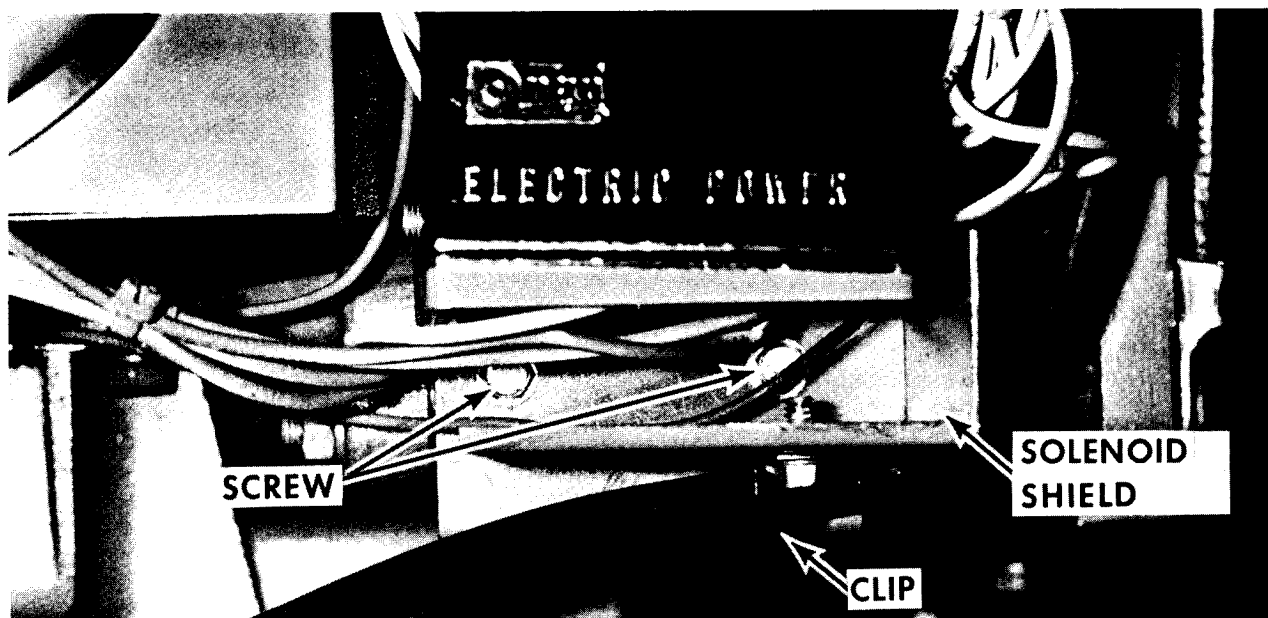
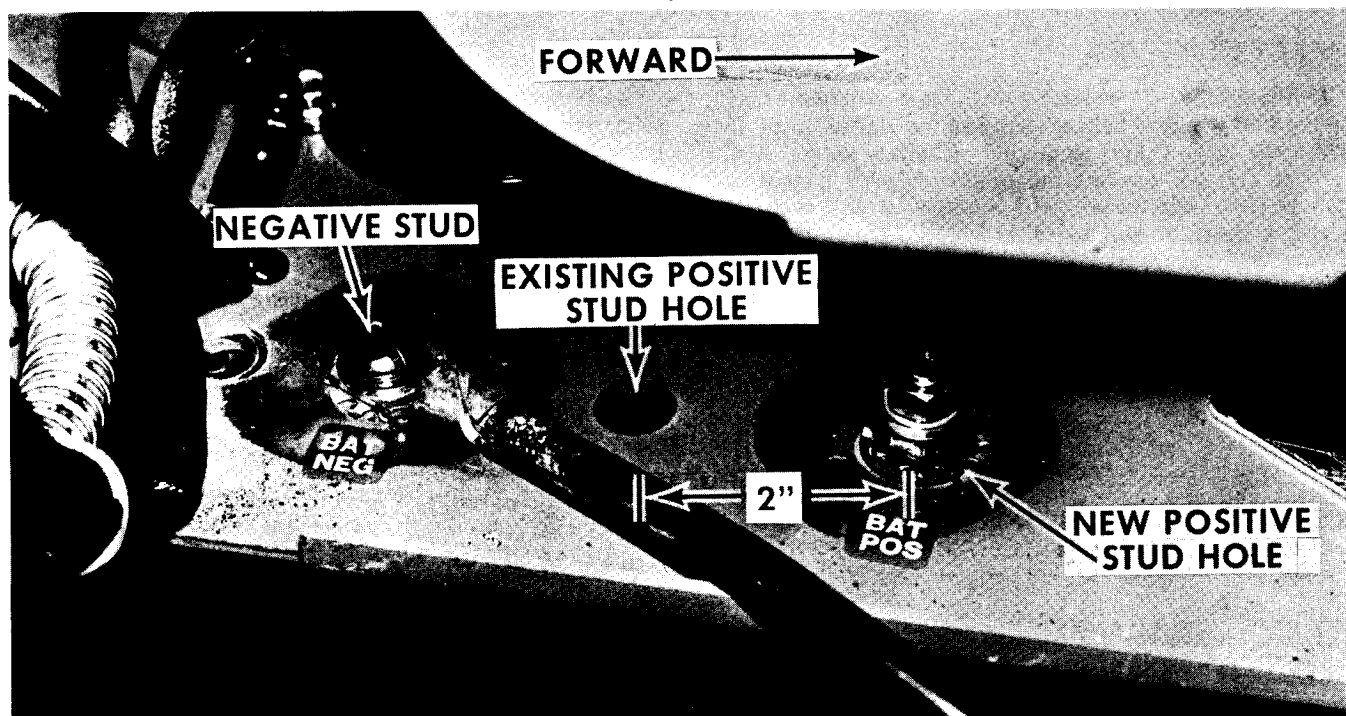

Figure 1
Figure 2
4. Remove two screws located under the control board. (Refer to Figure 1).
5. Position solenoid shield as shown in Figure 2, and install retaining screws. The control panel ground wire must be properly secured at this time. Secure starter cable with clip as shown in Figure 1.
7. Disconnect positive battery stud located at back of mounting pan (Refer to Figure 2).
8. Drill a 5/8" hole located two inches forward of existing hole as shown in Figure 2.